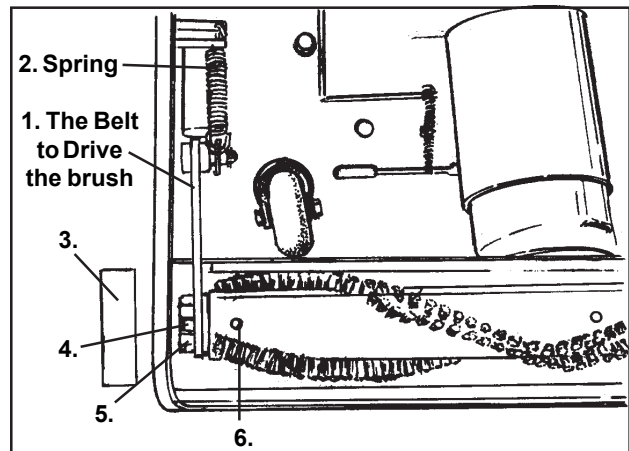

Figure 6
The belt to drive the brush: The tension of this belt is controlled by a spring. If necessary, replace the spring and the belt. See figure 6
To rotate the brush shaft, follow this procedure:(See figure 6)
3. Remove the side shoe (3) from the left-handed end of the brush shaft.
4. Loosen the retainer (4) and the spacer (5) on the end of the brush shaft.
6. Tighten the retainer (4).
To change the two halves of the brush, remove the screws (6). Replace the brush section and the screws. See figure 6